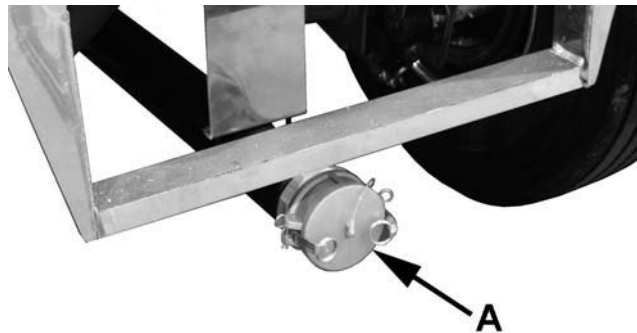

Figure 5-6 – Cap
2. Remove cap (A) on discharge line. See Figure 5-6.